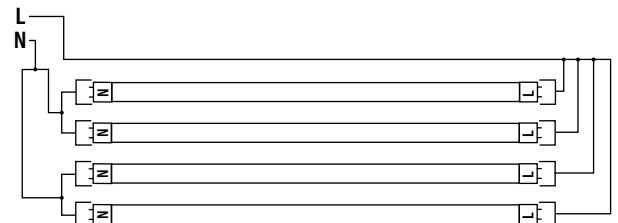

Fig. 1
5. Cut off wires connected to ballast, and remove ballast (and starter if present). Dispose of removed ballast according to federal, state and local laws. (Fig. 1)